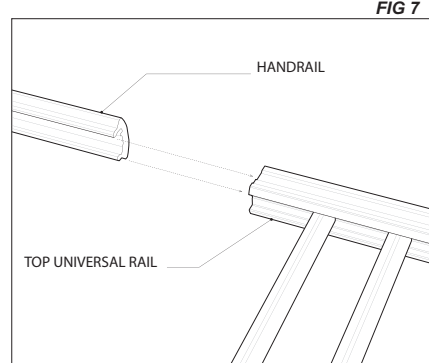

FIG 7
12. Slide the handrail over the top universal rail. **(Figure 7)**
11. Position all stair railing components out on a flat work surface, aligning the pre-drilled holes with the correct angles on the universal rails to the pre-cut balusters. **(Figure 7)**